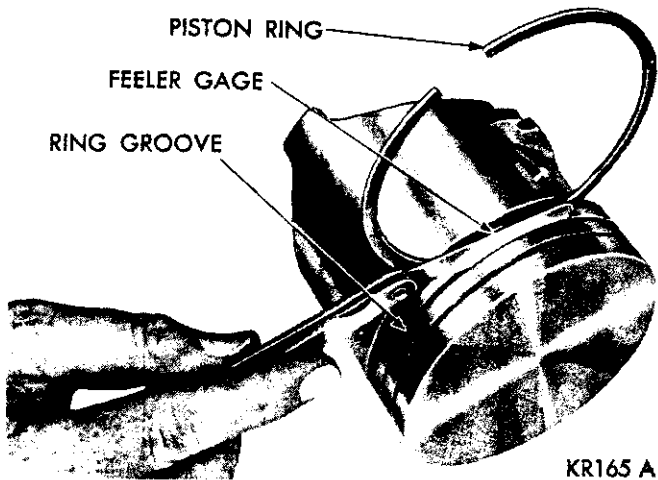

Fig. 34—Measuring Piston Ring Side Clearance
(1) Measure piston ring gap about two inches from the bottom of the cylinder bore in which it is to be fitted. (An inverted piston can be used to push rings down to insure positioning rings squarely in cylinder wall).
(2) Insert feeler stock in the gap. Ring gap should be .010 to .047 inch for compression rings and .015 to .062 inch for oil ring steel rails in standard size bores. Maximum gap in .005 inch o/s bores should be .060 inch for compression rings and .070 inch for oil ring steel rails.
(3) Measure side clearance between piston ring and ring land, (Fig. 34).